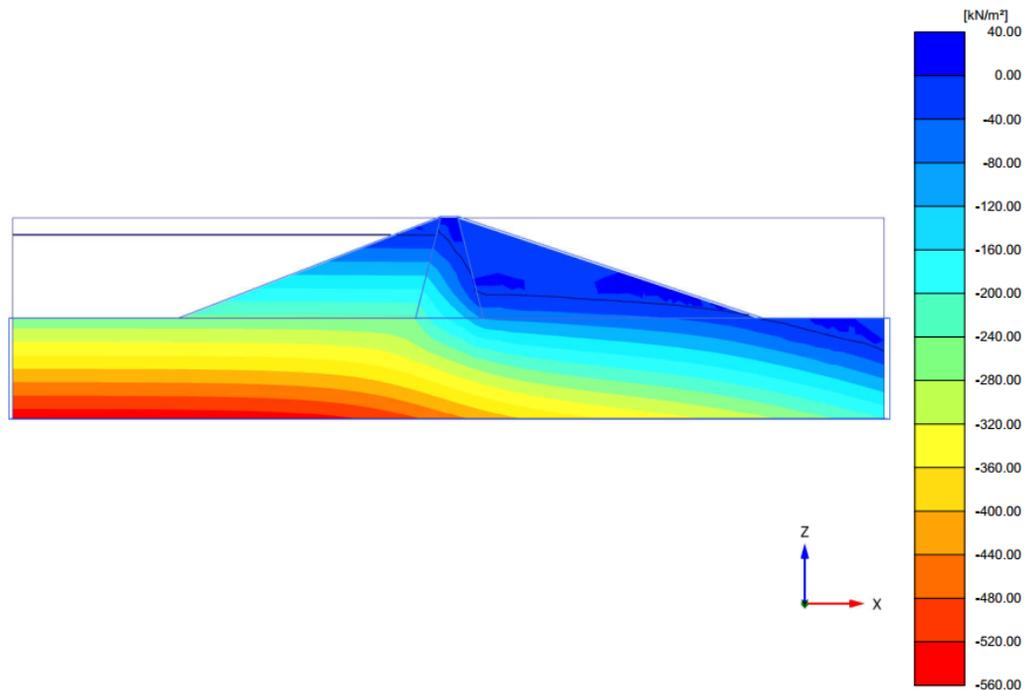

Figure 112: Pore water pressure distribution for high reservoir level (Initial phase)
- The situation with a high (standard) reservoir level - See Figure 112 (on page 140).